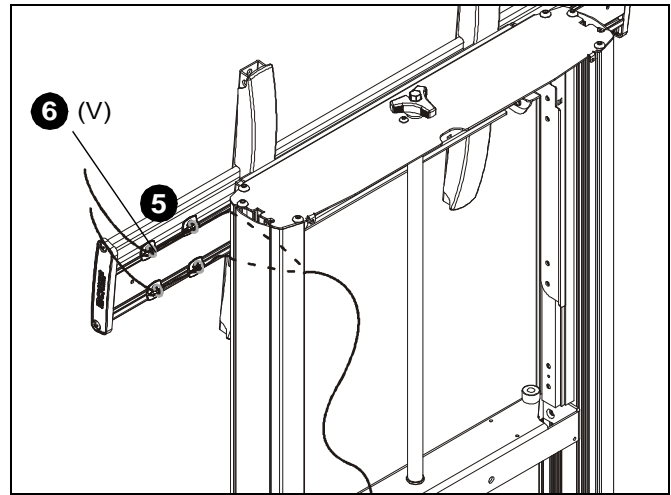

Figure 14
5. Route cables along FCA clips to be used for cable management. (See Figure 14)
6. Use cable ties (V) to secure cables to FCA clips. (See Figure 14)